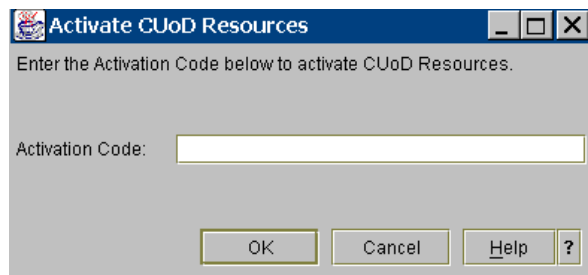

Figure 4-7 Activate CUoD Resources
- a. On the CUoD system that you want to activate the CUoD resources, right-click the managed system and select Capacity Upgrade on Demand -> **Activate**, and a menu will appear (see Figure 4-7).